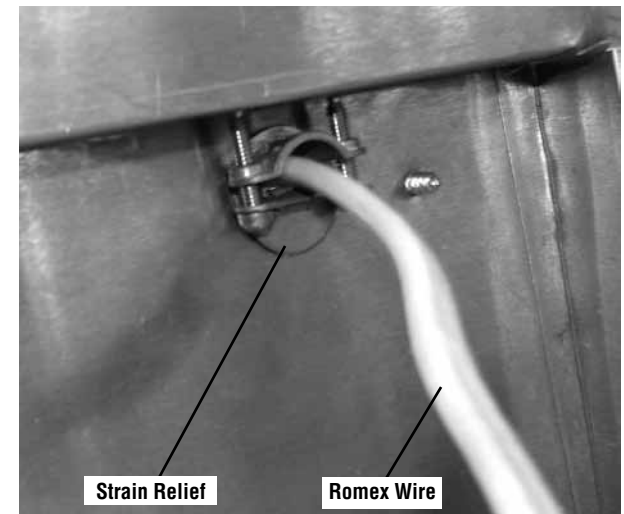

Figure 24 - Back Of Termination
- Refer to *Figure 24 on Page 19* and install the electrical hardware on the ends of the Romex wiring. Male terminals on the Black and White wires, and ring terminals on the ground wire.